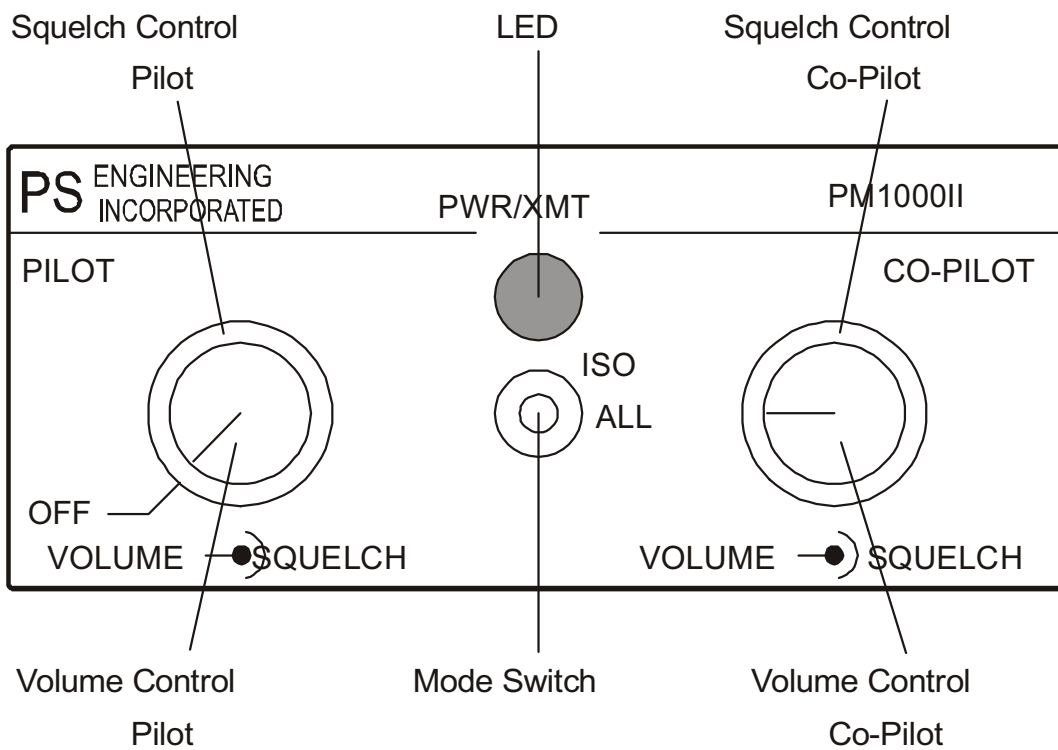

Figure 1 : PM 1000 II Intercom
- PM 1000 II voice-activated (VOX) intercom, see Figure 1.
Figure 1 shows the PM 1000 II Intercom. It is mounted above the NAV/COM 1 set in the avionics rack in the instrument panel, see Chapter 31.